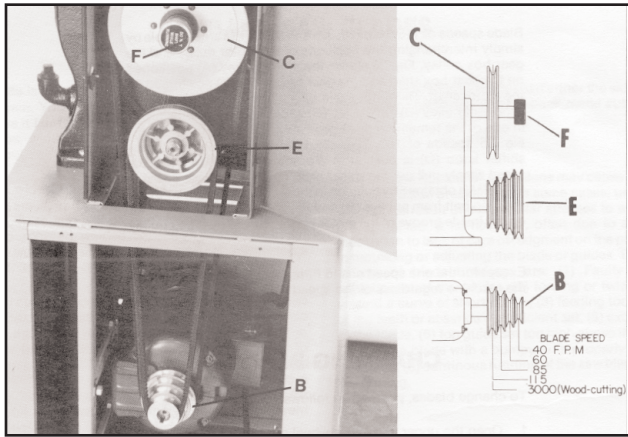

Fig. 32
With the longest belt on the inside groove of the motor pulley (B) Fig. 32 and on the drive pulley (C), and the small belt in one of the remaining three grooves of the motor pulley and the corresponding groove of the gear box pulley (E), speeds of 40, 60, 85, and 3000 SFM are readily available. To obtain speeds of 40, 60, and 85 SFM, push the shifter knob (F) Fig. 32 all the way in, and position the small belt on one of the three outside grooves of the motor pulley (B) and the gear box pulley (E).